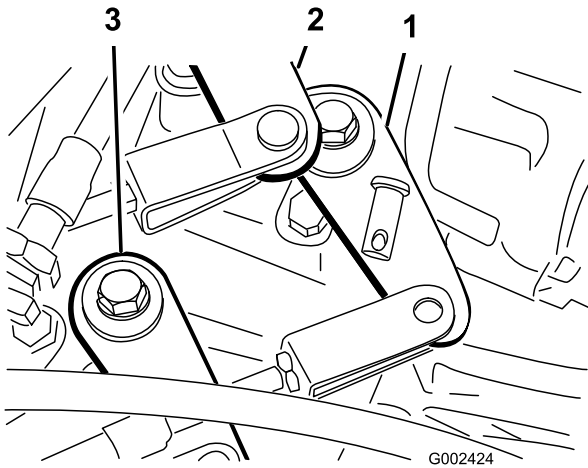

Figure 44
2. Remove the clevis pins securing the shift cables to the transaxle shift arms (Figure 44).
1. Remove the clevis pin securing the high—low cable to the transaxle (Figure 44).